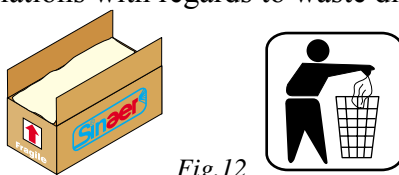

Fig.12
- 1 Remove the pump from its package making sure that the packaging is disposed of in compliance with local regulations with regards to waste disposal (fig. 12).